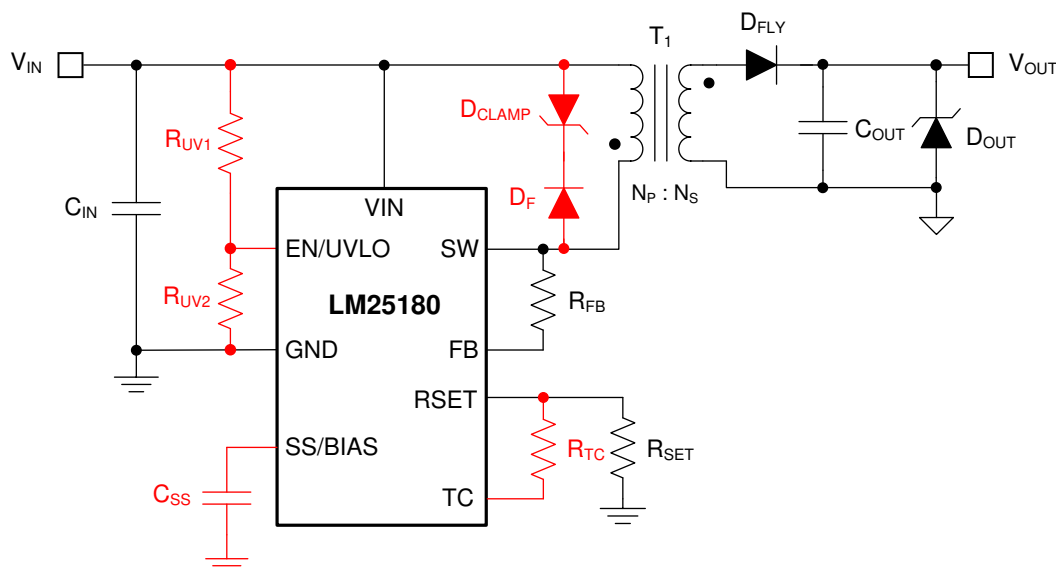

图 19. LM25180-Q1 Flyback Converter Schematic (Optional Components in Red)
Figure 19 shows a typical schematic of the LM25180-Q1 PSR flyback circuit. Components denoted in red are optional depending on the application requirements.
To minimize output voltage regulation error, the LM25180-Q1 senses the reflected secondary voltage when the secondary current reaches zero. The feedback (FB) resistor, which is connected between SW and FB as shown in 图 19, is determined using 公式 8, where R_{SET} is nominally 12.1 kΩ.